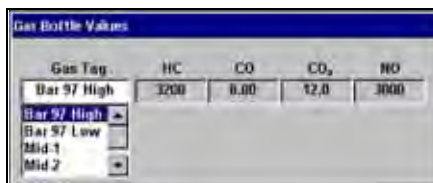

Figure 4-41 Sample Gas Tag menu
- Press **Ya** to display the Gas Tag menu (Figure 4-41).